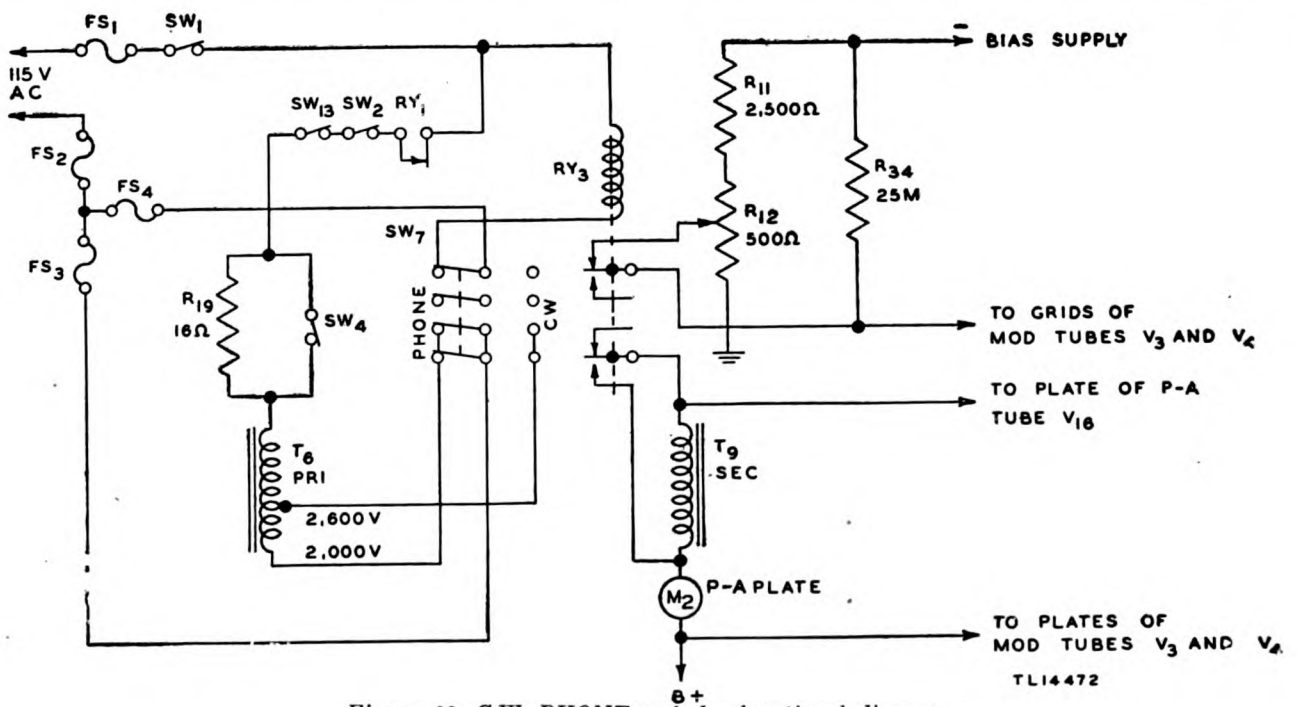

Figure 69. C.W. PHONE switch—functional diagram.
e. C. W. PHONE SWITCH SW_7 (fig. 69). C. W. PHONE switch SW_7 is a four-pole, double-throw toggle switch located on the front panel of the transmitter. Its purpose is to select either c-w or phone operation. In the C. W. position, switch SW_7 applies a-c power to only a portion of the primary winding of transformer T_6 . Thus full plate voltage is applied to the p-a tube. In the PHONE position, switch SW_7 applies a-c power to the whole primary winding of transformer T_6 and, as a result, reduced plate voltage is applied to p-a tube V_{16} and modulator tubes V_3 and V_4 . Two poles of switch SW_7 are connected in parallel to carry the primary current required by transformer T_6 . In the PHONE position, another pole on switch SW_7 applies voltage to the coil of relay RY_3 . The con-